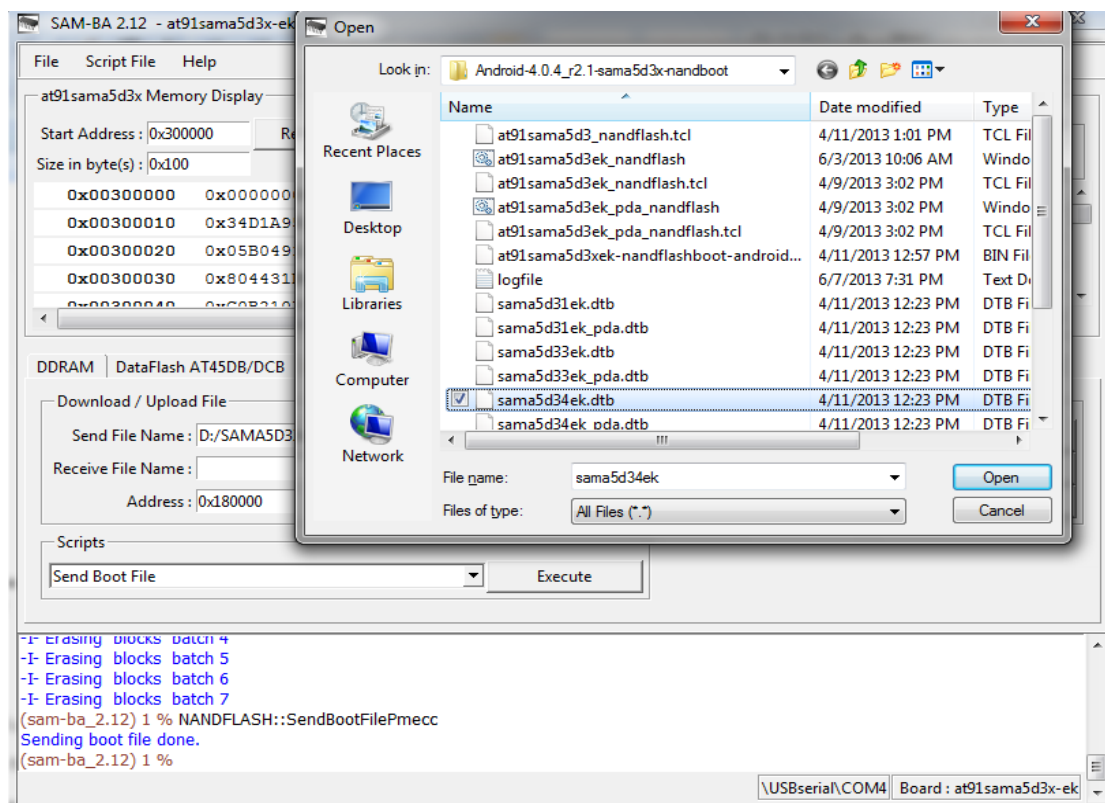

Figure 4-14
(9) Download [sama5d3xek.dtb] to 0x0018 0000 Department. Refer to figure 4-14: